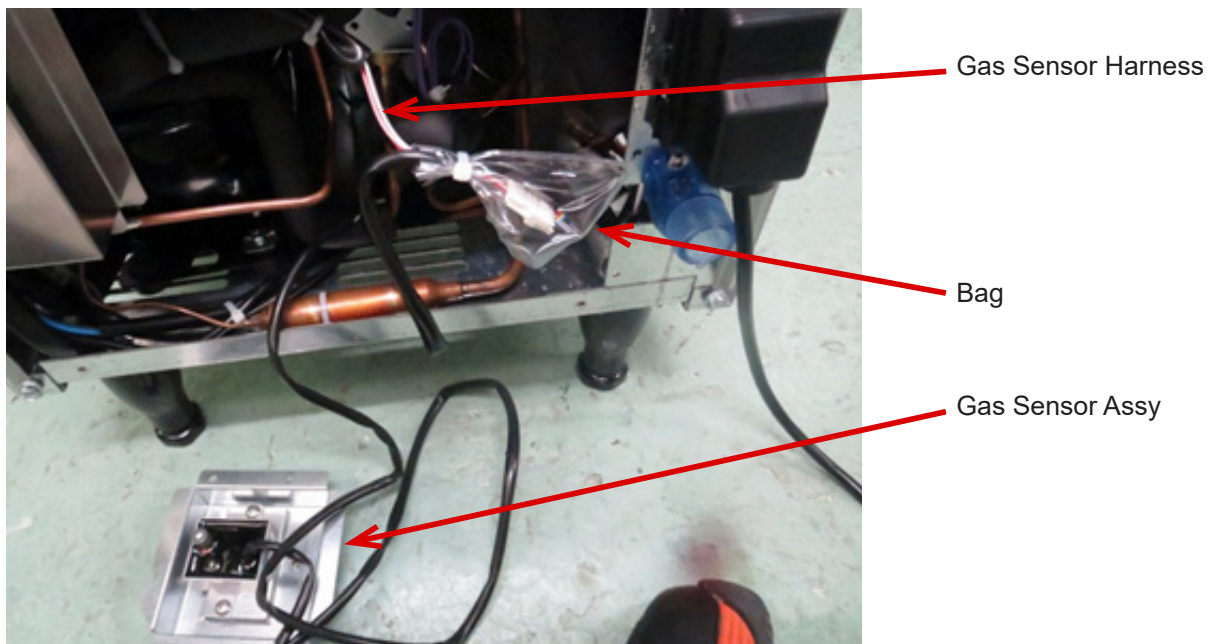
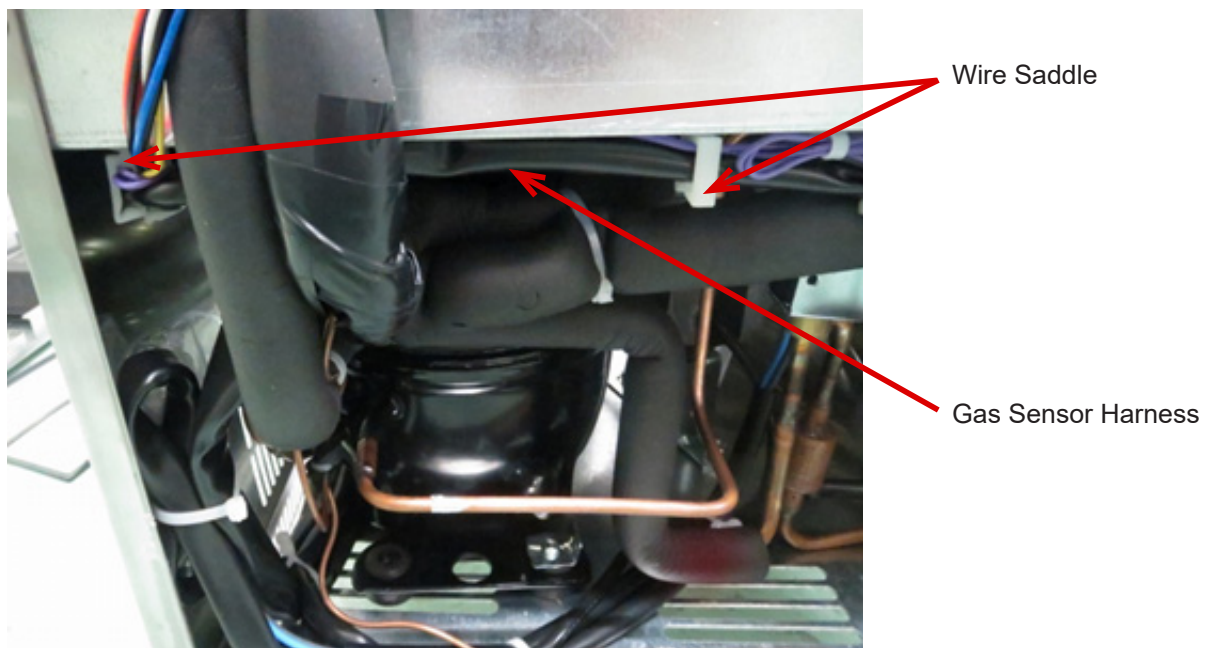

Fig. 30
Fig. 31
14) Run the gas sensor harness attached in the step 10) through the rear of the unit and connect it to the gas sensor assy connector. Put the bag over the connector and fix it with the tie as shown in Fig. 30. Fix the gas sensor harness to the wire saddle as shown in Fig. 31.